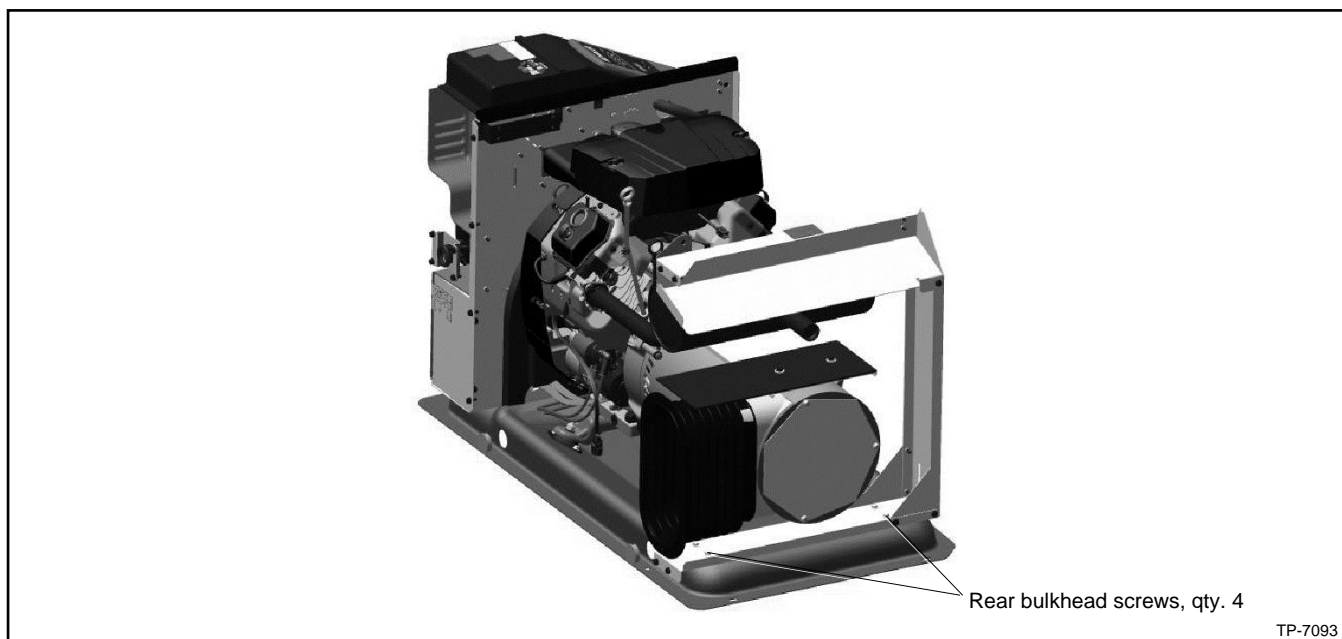

Figure 143 Rear Bulkhead
11. Reinstall the rear bulkhead assembly shown in Figure 143.